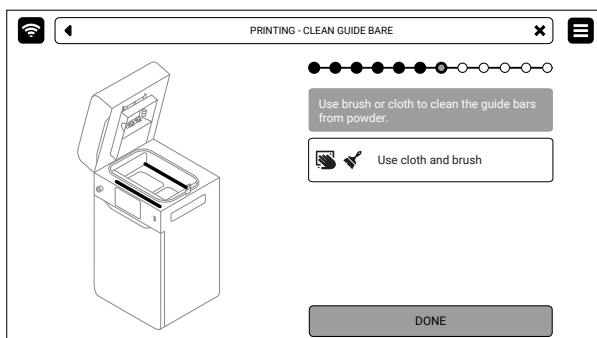

Fig. 6.10 Clean the Recoater guide bars.
4. Remove powder from the guide bars. Use a brush or a cotton cloth. Press **DONE** (fig. 6.10).